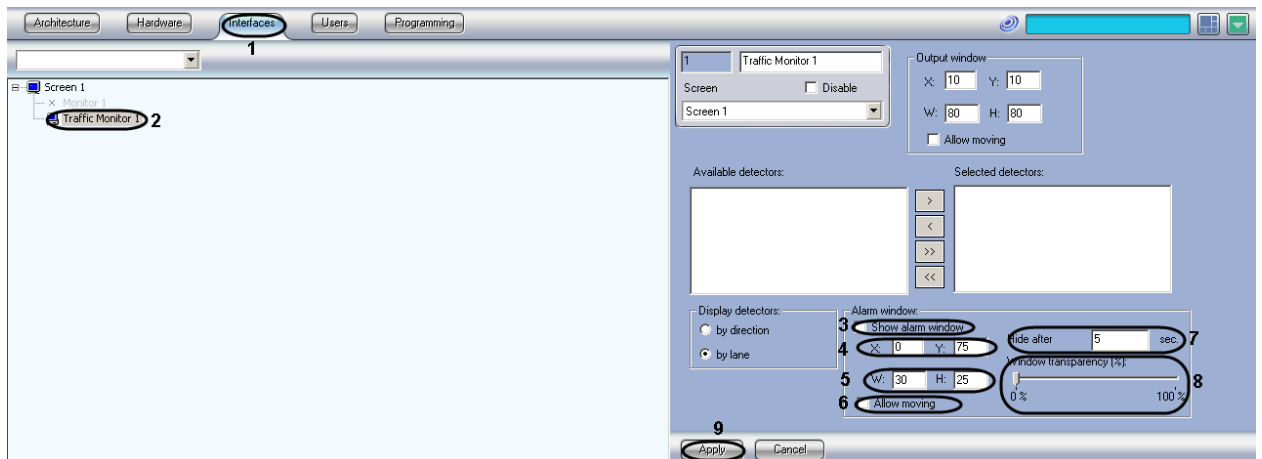

Fig. 7.9-1 Setting up the Alarm window position
*Note. Click Cancel to close the Settings dialog window without saving the changes (Fig. 7.9-1, 7).*
1. Open the Interfaces tab in the System Settings window (see Fig. 7.9-1, 1).
2. Select the Traffic Monitor object in the object tree (see Fig. 7.9-1, 2).
3. By default, the Alarm window is not displayed. To open the Alarm window, check the Show alarm window checkbox (see Fig. 7.9-1, 3).
4. To change the window position, enter the values in the X and Y fields (see Fig. 7.9-1, 4). The values must correspond to the coordinates of the upper left corner of the window as a percentage of the screen width and height, respectively.
5. To change the window size, enter its width in the W field and its height in the H field as a percentage of the screen dimensions (see Fig. 7.9-1, 5).
6. By default, the Alarm window cannot be moved around the screen. To enable window movement, check the Allow moving checkbox (see Fig. 7.9-1, 6).
7. In the Hide after field, enter the number of seconds that the window will be displayed until it is closed (see Fig. 7.9-1, 7).
8. Set the Alarm window transparency level using the Window transparency slider. By default, the Window transparency window is displayed opaque (minimum transparency). The transparency level increases (in percent) when the slider is moved to the right (see Fig. 7.9-1, 8).
9. Click Apply (see Fig. 7.9-1, 9).